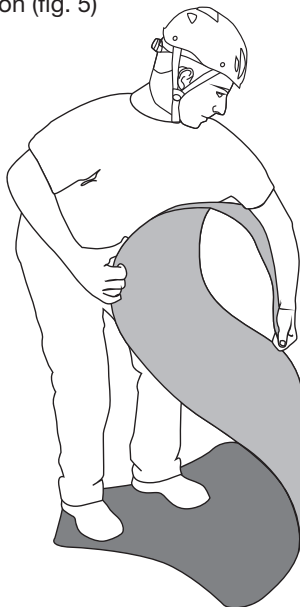

Fig. 5
- Remove the “**ROLLY**” rescue sheet from the transport bag (O) and remove the ratchet sling (N)
- Distend the support surface (A) and flatten it, rolling the ends over in the opposite direction and folding the central section (fig. 5)